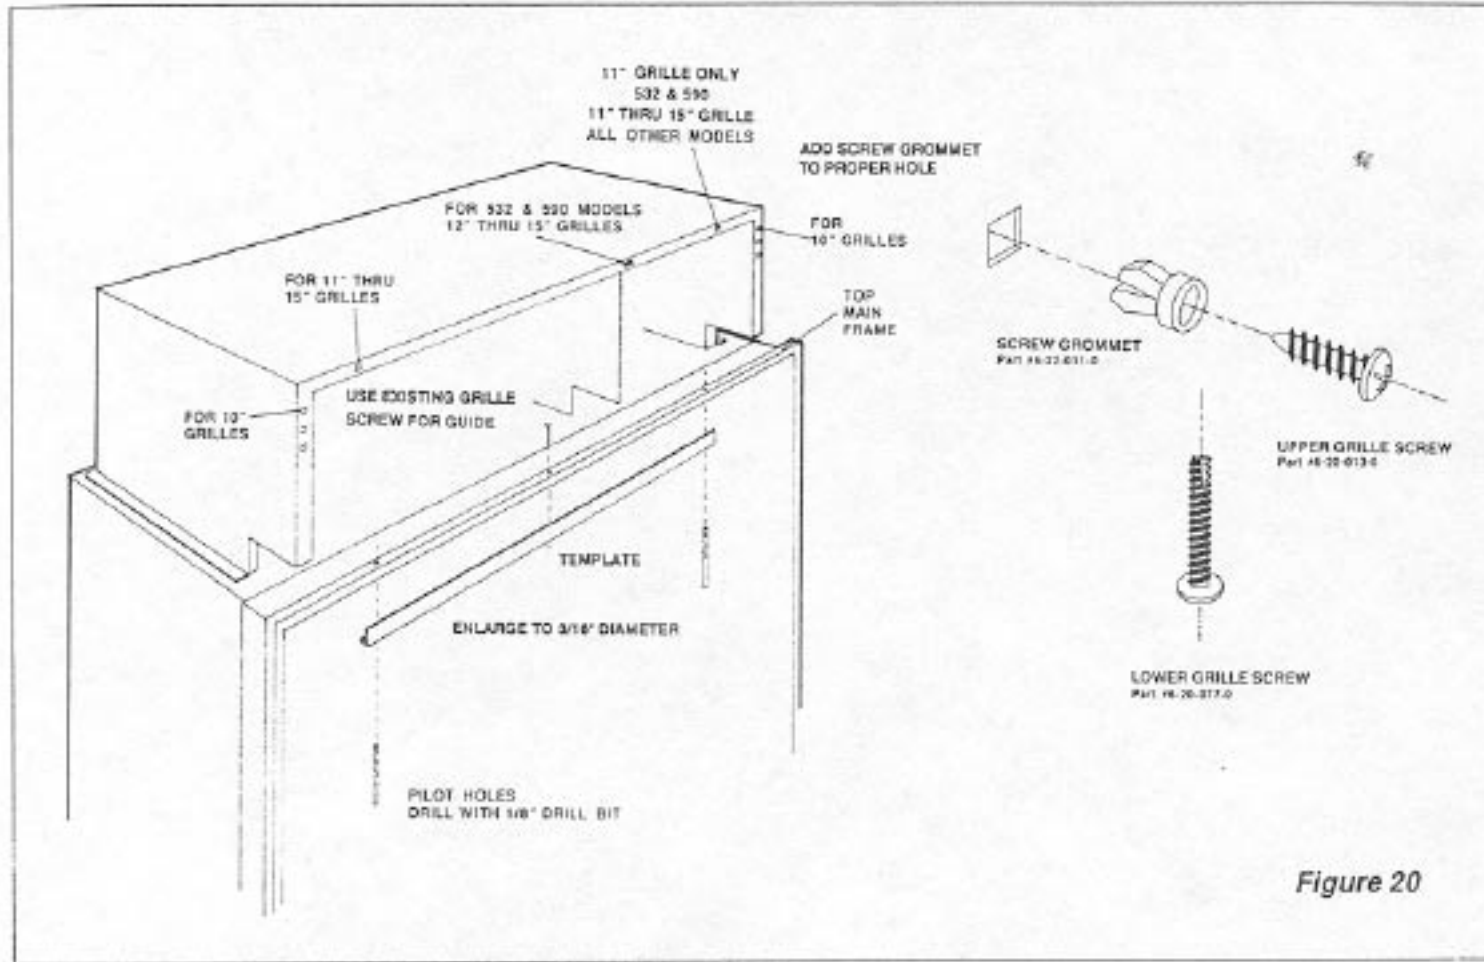

Figure 20
B) Open the door(s) and attach template provided with panel grille installation kit. The template center hold must be aligned with the grille screw hole and you must fasten from the top down with the screw you removed in step A. See Figure 20.
C) With template in place, drill 1/8" pilot holes in the end holes of the template. See Figure 20. Enlarge pilot holes by drilling 3/16" finished holes. After drilling holes, remove template and discard. Keep screw for later installation.
D) Install screw grommets in properly labeled holes in Figure 20 in the shroud assembly.
E) Attach the outer grille frame to the shroud assembly by inserting the two upper grille screws into their proper holes and with door(s) open install the lower three grille screws as shown in Figure 20 and Figure 10.